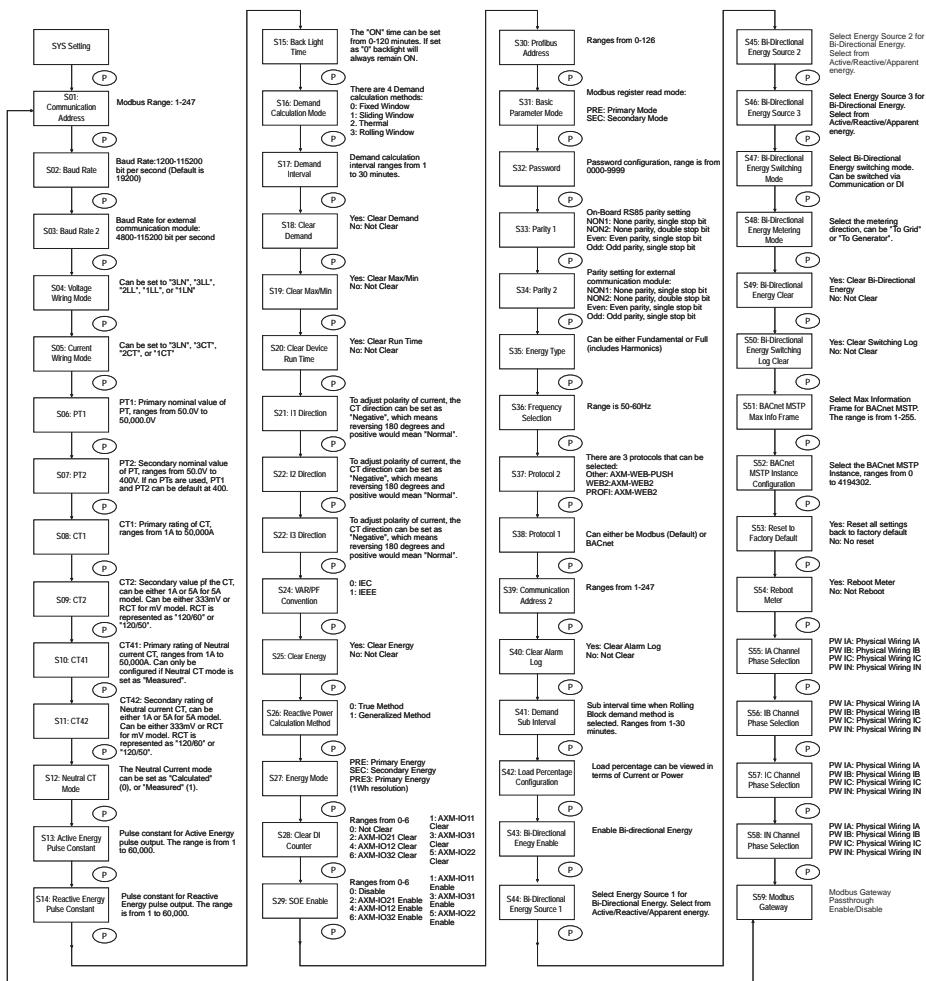

Figure 3-34 System Parameters Page Sequence
**NOTE:** Figures 3-34 to 3-37 will show the rolling sequence using the **P** key. If you are using the **E** key for scrolling across the pages, the sequence will be reversed.